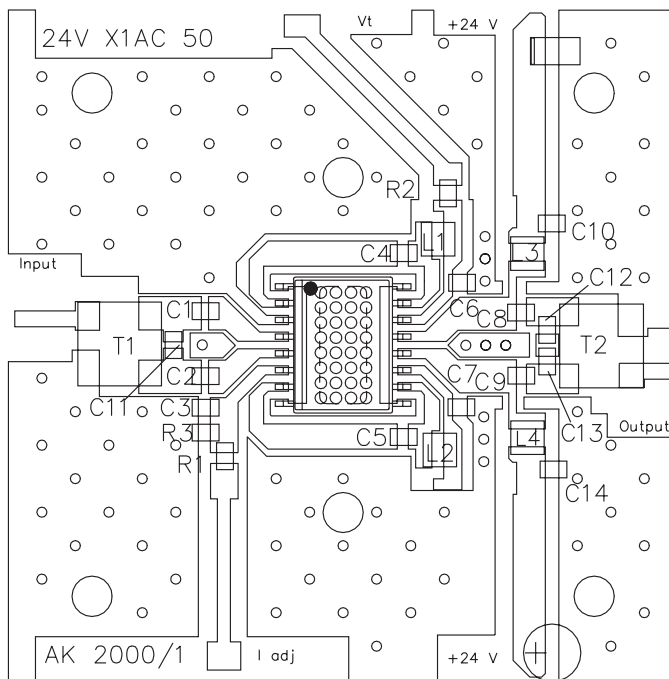
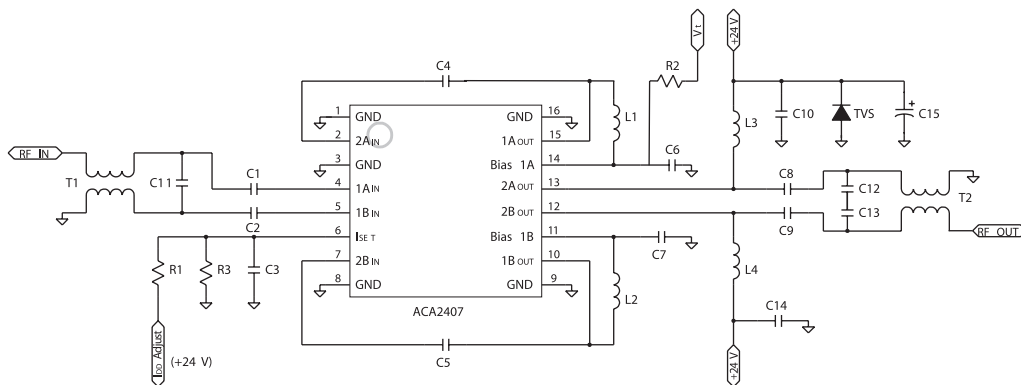

Figure 16: Evaluation Board Layout
Figure 17: Evaluation Board Schematic
- (1) Measured with baluns on the input and output of the device.
- (2) Parts measured with 77 channels flat output, +42 dBmV per channel.
- (3) Parts measured with 110 channels flat output, +40 dBmV per channel.
- (4) Parts measured with 128 channels flat output, +40 dBmV per channel.
- (5) The supply current may be reduced by decreasing the value of R3 (see Figure 17)
- (6) 47.5 dBmV output, 9.5 dB tilt @ 1 GHz
- (7) 45.5 dBmV output, 9.5 dB tilt @ 1 GHz
8. All specifications as measured on Evaluation Board (see Figures 16 & 17).